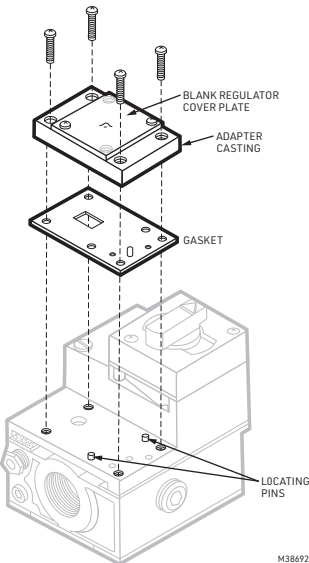

Fig. 1. Removing adapter casting. from standard capacity valve body.
2. Remove pressure regulator or blank cover plate. See Figs. 1 and 2. Save regulator or cover plate for reassembly to new operator. Save gasket for blank cover plate; discard pressure regulator gasket.
2. Remove adapter casting from valve body. See Figs. 1 and 2. Discard casting and gasket.
1. Remove the old operator or adapter casting by loosening the 4 mounting screws and lifting operator or adapter off the main valve body. DO NOT loosen the 5th screw at the edge of the operator. See Figs. 1 and 2.